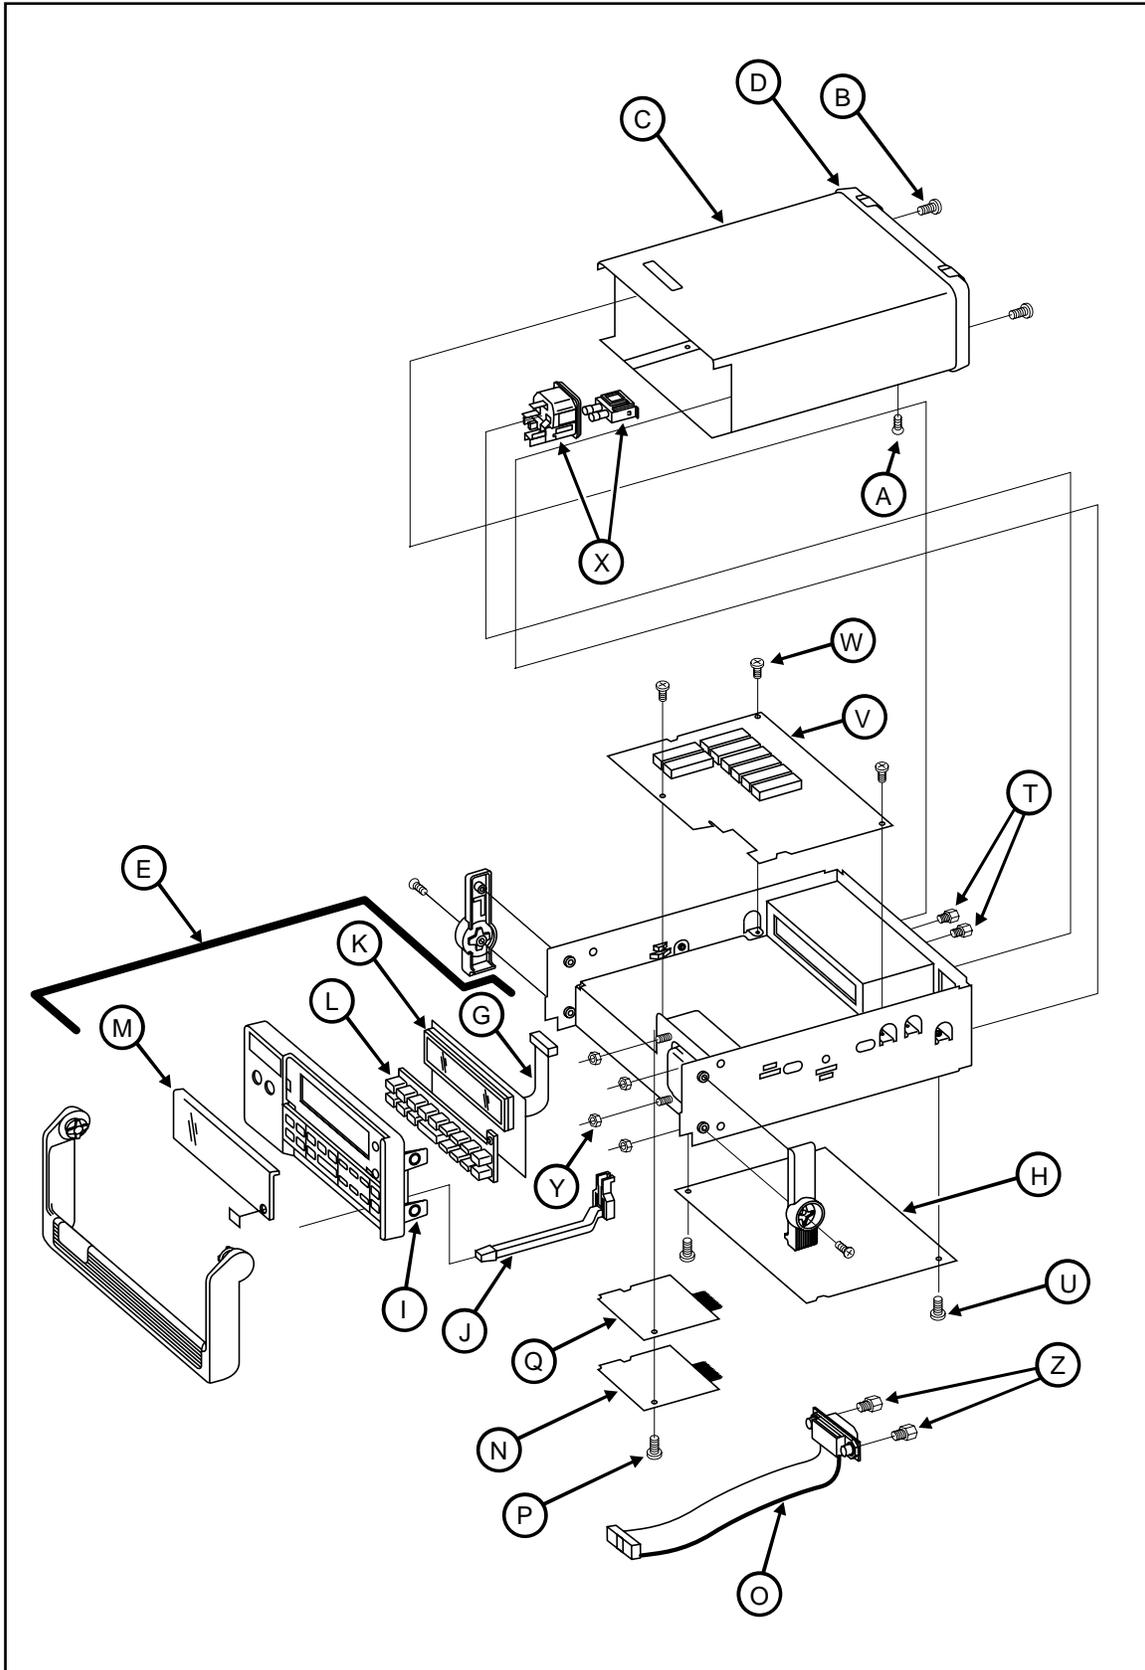
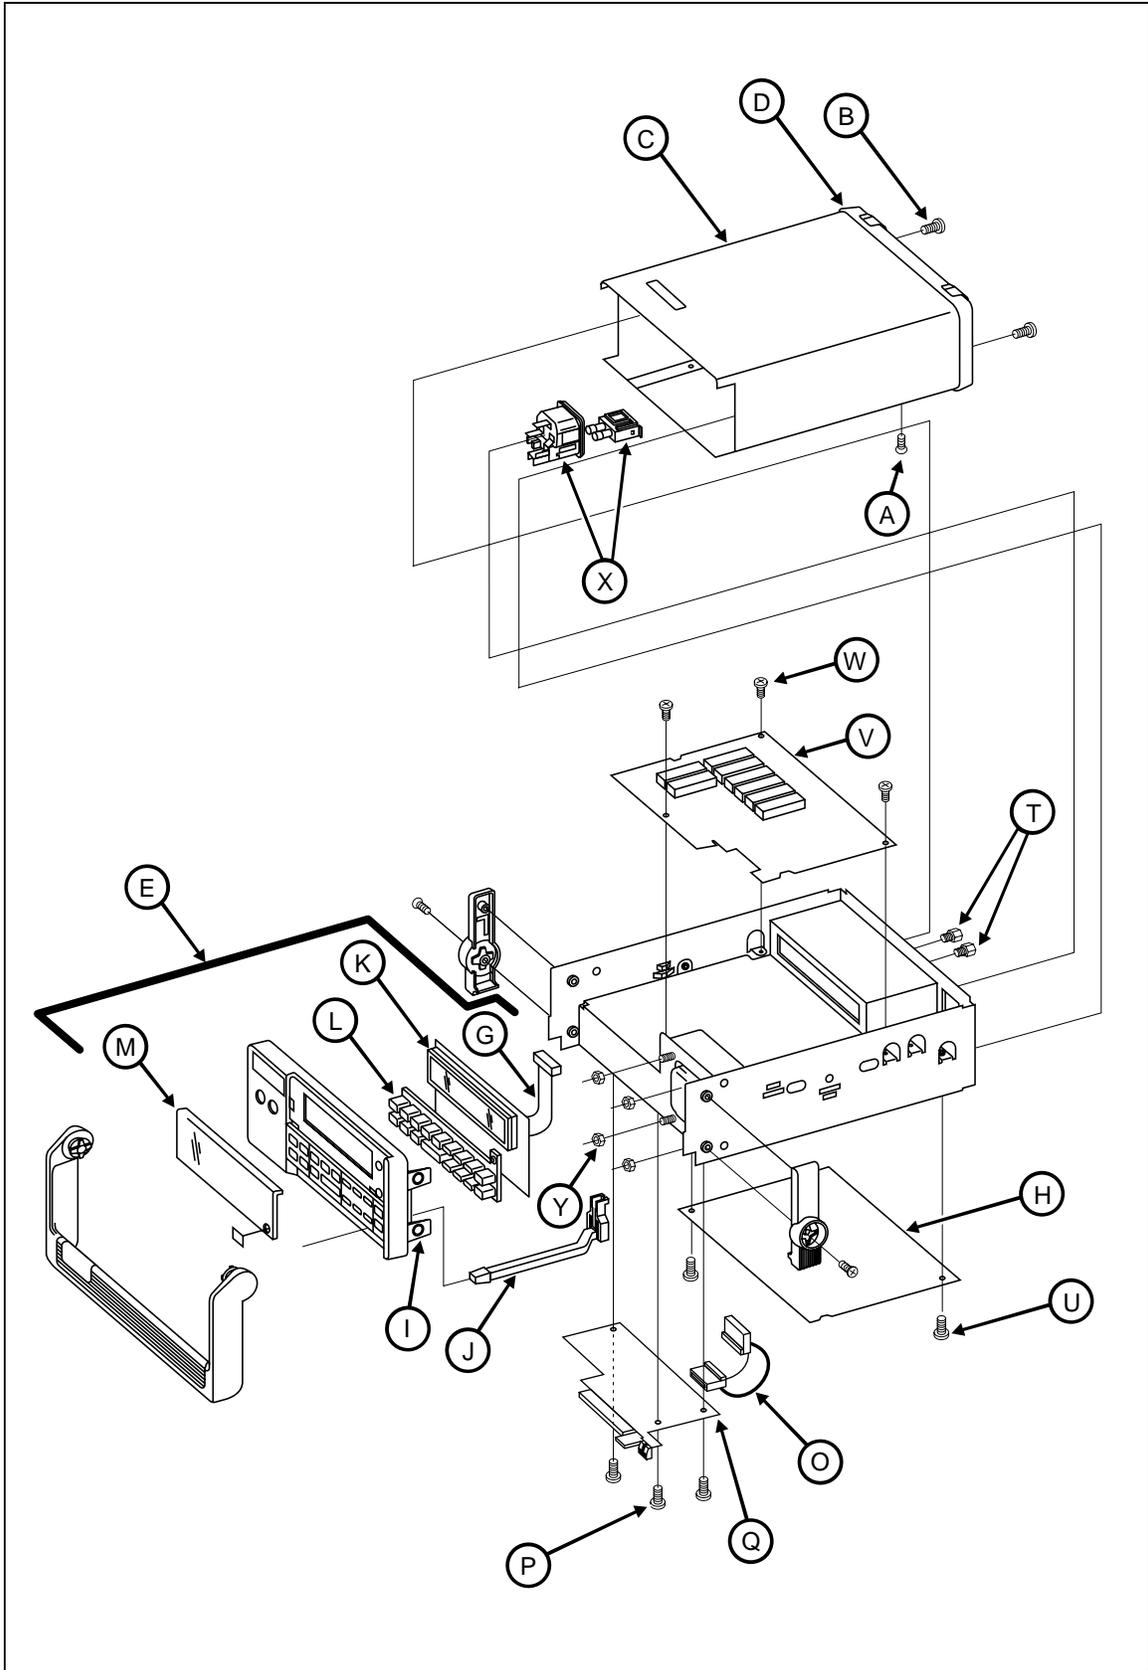

Figure 3-4. 2620A and 2625A Assembly Details
Figure 3-5. 2635A Assembly Details
Parts referenced by letter (e.g., A) are shown in Figure 3-4 (2620A or 2625A) or Figure 3-5 (2635A).
Two movable tabs hold the Display PCA (K) in place on the back of the Front Panel Assembly. Release one tab at a time. Then, while prying slightly at the top of the Display PCA, lift the pca out of its securing slots. Parts referenced by letter (e.g., A) are shown in Figure 3-4 (2620A or 2625A) or Figure 3-5 (2635A).
Section 7 of this manual provides a detailed removal procedure for the IEEE-488 option. The following removal instructions provide the essentials of this procedure. Parts referenced by letter (e.g., A) are shown in Figure 3-4. If necessary, refer to the complete procedure in Section 7.
Use the following procedure to remove the Memory PCA from the 2625A Data Logger. Parts referenced by letter (e.g., A) are shown in Figure 3-4.
Use the following procedure to remove the Memory Card I/F PCA from the 2635A Data Bucket. Parts referenced by letter (e.g., A) are shown in Figure 3-5.
With the IEEE-488 option (2620A) and the Memory PCA (2625A) or Memory Card I/F PCA (2635A) removed, the Main PCA (H) can be removed. Parts referenced by letter (e.g., A) are shown in Figure 3-4 (2620A or 2625A) or Figure 3-5 (2635A). Use the following procedure:
1. If it is still attached, remove the green power switch activator rod (J) extending from the power switch on the Main PCA through the Front Panel Assembly. Squeeze the end of the rod at the power switch and lift up; the bar disengages smoothly from the switch.
2. Using needle nose pliers, disconnect the display ribbon cable (G) on the Main PCA (H) by alternately pulling up on each end of its connector. Avoid breaking the alignment tabs on the Main PCA side of this connection. (This connector has already been detached if the Front Panel Assembly was removed.)
6. Remove the RS-232 connector screws (T) at the Rear Panel. Use a 3/16-inch nut driver to loosen the connector securing hardware.
8. Now remove the two screws (U) securing the Main PCA to the chassis. Slide the Main PCA forward. Then, while matching the pca edge indentations to the guide tabs on each chassis side, lift the Main PCA up and away from the chassis.
Use the following procedure to remove the A/D Converter PCA (V). Parts referenced by letter (e.g., A) are shown in Figure 3-4 (2620A or 2625A) or Figure 3-5 (2635A).
4. Remove the three Phillips head screws (W) securing the A/D Converter PCA to the chassis.
Use the following procedure to disconnect the remaining hardware from the chassis. Parts referenced by letter (e.g., A) are shown in Figure 3-4 (2620A or 2625A) or Figure 3-5 (2635A).
Generally, assembly procedures follow a reverse sequence of disassembly procedures. As some differences do apply, assembly is described separately in the following paragraphs. Begin assembly at the appropriate level, as defined by the heading. References are made to items in Figure 3-4 (2620A or 2625A) or Figure 3-5 (2635A) for assembly details of standard instrument parts.